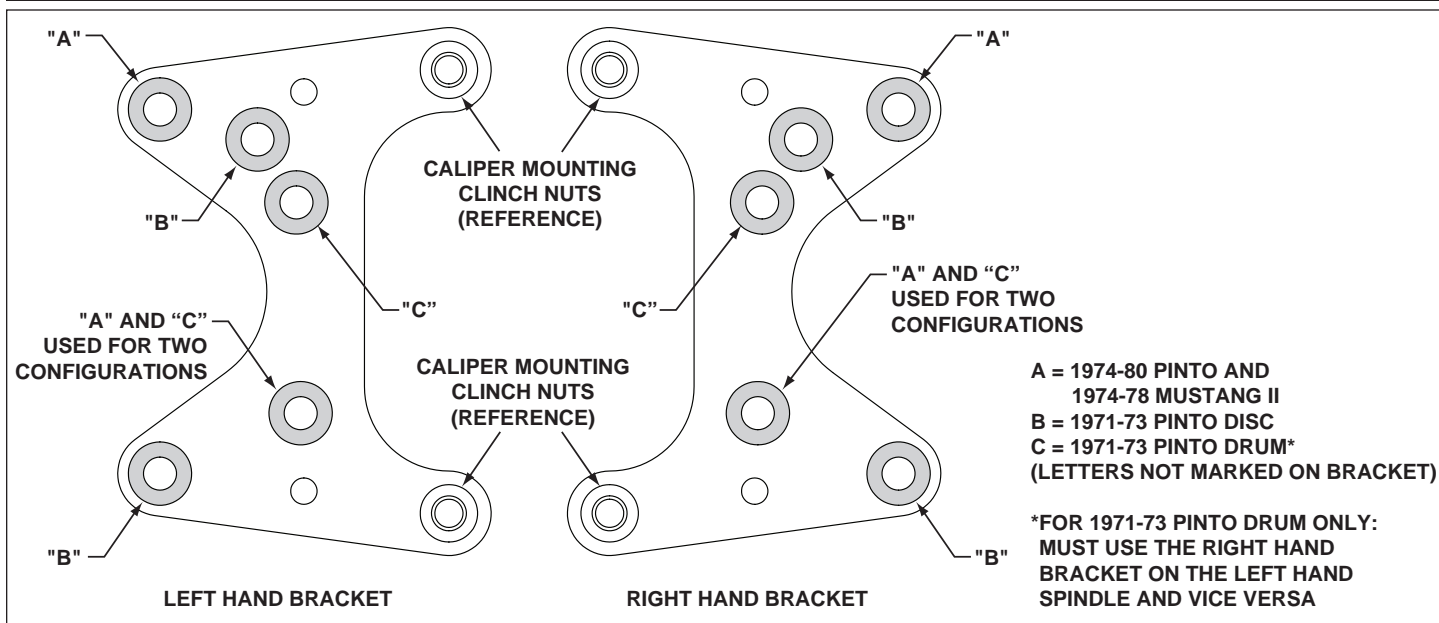
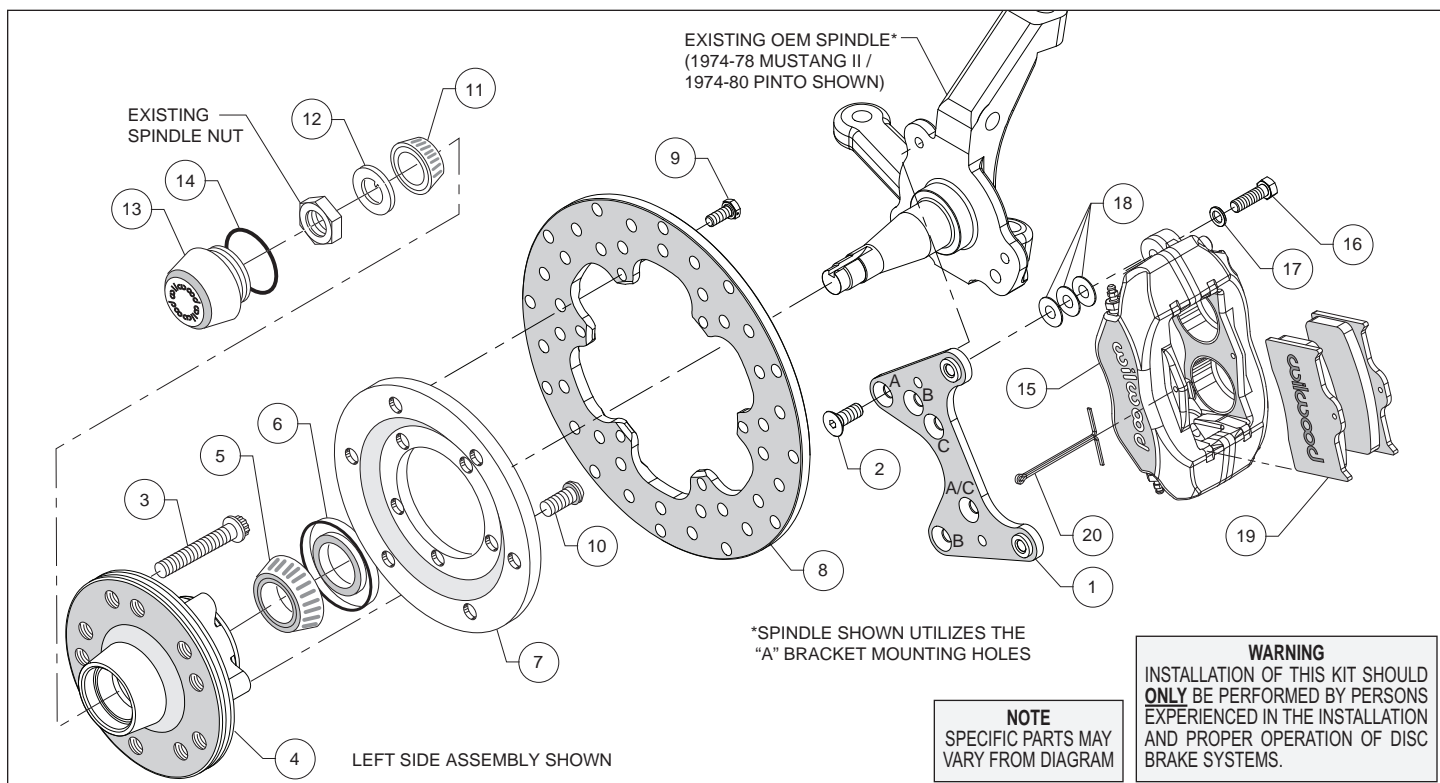
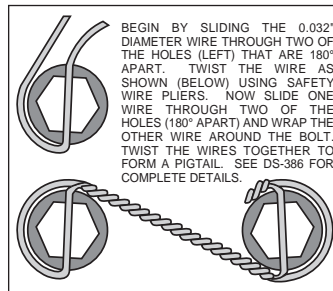
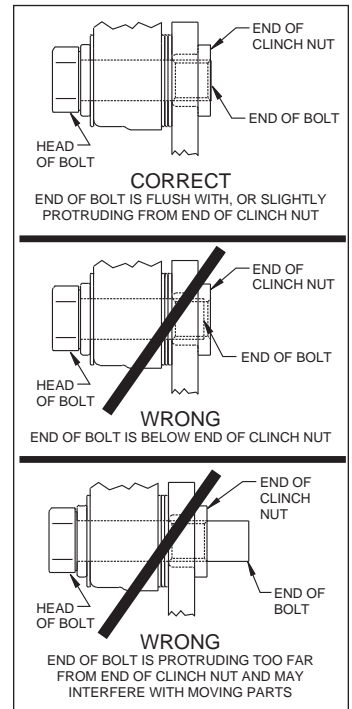

Figure 1. Wilwood Caliper Mounting Bracket
Figure 2. Typical Installation Configuration
Figure 4. Safety Wire Diagram
Figure 5. Clinch Nut Engagement Diagram
This kit has been designed for use with three spindle configurations. The only difference is in how the Wilwood caliper mounting bracket is installed. The same bracket is used for all three configurations; the 1974-78 Mustang II/1974-80 Pinto, the 1971-73 Pinto disc and the 1971-73 Pinto drum spindle (see Figure 1). For your convenience we have supplied fasteners for all applications (see parts list and Figure 2 as necessary, items 2, 2A and 2B). Use the fasteners that are applicable to your vehicle and disregard the other items.
Assembly Instructions (numbers in parenthesis refer to the parts list, on the preceding page and Figure 2): **CAUTION:** All mounting bolts must fully engage clinch nuts. Be sure to check that all bolts are either flush or protruding through flanged side of clinch nut after shimming, Figure 5.
•Orient the caliper mounting bracket (1) as shown in Figure 2 and Photo 1. Using the bracket holes indicated “A” in Figure 1, mount the bracket to the spindle with bolts (2), Photo 1. Temporarily tighten the mounting bolts. Ensure that the flanged heads of the clinch nuts in the bracket are facing outboard, Photo 1. **NOTE:** *The bracket must fit squarely against the mounting points on the spindle.* Inspect for interference from casting irregularities, machining ridges, burrs, etc. Remove bolts one at a time, apply red *Loctite*® 271 to threads and torque to 30 ft-lb.
•Orient the caliper mounting bracket (1) as shown in Photo 2. Using the bracket holes indicated “B” in Figure 1, mount the bracket to the spindle with bolt (2) and bolt (2A), Photo 2. Temporarily tighten the mounting bolts. Ensure that the flanged heads of the clinch nuts in the bracket are facing outboard, Photo 2. **NOTE:** *The bracket must fit squarely against the mounting points on the spindle.* Inspect for interference from casting irregularities, machining ridges, burrs, etc. Remove bolts one at a time, apply red *Loctite*® 271 to threads and torque bolt (2) to 30 ft-lb and bolt (2A) to 45 ft-lb.
•Orient the caliper mounting bracket (1) as shown in Photo 3. Using the bracket holes indicated “C” in Figure 1, mount the bracket to the spindle with bolts (2) and nuts (2B), Photo 3. **NOTE:** *For this application, the right hand bracket must be used on the left hand spindle, and vice versa.* Temporarily tighten the mounting bolts. Ensure that the flanged heads of the clinch nuts in the bracket are facing outboard, Photo 3. **NOTE:** *The bracket must fit squarely against the mounting points on the spindle.* Inspect for interference from casting irregularities, machining ridges, burrs, etc. Remove nuts one at a time, apply red *Loctite*® 271 to the bolt threads and torque nuts to 30 ft-lbs.
•Install wheel studs (3) into the hub (4), Photo 4. Torque to 77 ft-lb. **NOTE:** *There are two five lug patterns in the hub (5 x 4.50 and 5 x 4.75).* Ensure the correct hub stud pattern is being used to fit the wheel application.
•Pack the large inner bearing cone (5) with high temperature disc brake bearing grease (available from your local auto parts store) and install into the backside of the hub (4), Photo 5.
•Install the grease seal (6) by pressing into the backside of the hub (4), flush with the end of the hub, Photo 5.
•Orient the rotor (8) and the rotor adapter (7) as shown in Figure 2 and Photo 6. Attach the rotor to the adapter using bolts (9). Using an alternating sequence, apply red *Loctite*® 271 to the threads, and torque to 25 ft-lbs. Safety wire bolts using standard 0.032 inch diameter stainless steel safety wire as shown in Figure 4. Refer to Wilwood’s data sheet DS-386 (available at www.wilwood.com/Pdf/DataSheets/ds386.pdf) for complete safety wire installation instructions.
- Mount the adapter/rotor assembly (7 and 8) to the hub (4) using bolts (10), as shown in Figure 2 and Photo 7. Using an alternating sequence, apply red *Loctite*® 271 to the threads, and torque to 45 ft-lb.
- Pack the small outer bearing cone (11) with high temperature disc brake bearing grease and install into hub (4). Slide the hub/rotor assembly onto the spindle. Secure using spindle washer (12) and OEM spindle nut, Photo 8. Adjust bearings per OEM specifications. Install saved OEM nut lock (if any) and a new cotter pin (not included).
- Screw dust cap (13) into hub (4), Photo 9. Friction created by the o-ring (14) on the dust cap keeps it from unscrewing. **NOTE:** The O.D. of the existing OEM spindle washer may be larger than the I.D. of the dust cap not allowing it to seat against the hub face. Therefore, use the spindle washer (12) supplied with the kit instead of the OEM washer.
- NOTE:** Please reference the caution statement at the beginning of the assembly instructions. Mount the caliper (15) onto the caliper mounting bracket (1) using bolts (16) and washers (17), as shown in Figure 1. Initially place three .035" thick shims (18) on each bolt between the caliper and the bracket, Photo 10. Temporarily tighten the mounting bolts and view the rotor (8) through the top opening of the caliper. The rotor should be centered enough in the caliper so that the pads will install easily, Photo 11. If not, adjust by adding or subtracting shims (18) between the bracket and caliper. Always use the same amount of shims on each of the two mounting bolts. **CAUTION:** Do not exceed four shims (18) per bolt. **NOTE:** The end of each bolt must be flush with or slightly protruding from the head of the clinch nut, as shown in Figure 5. If necessary place spare shims between washer (17) and caliper mounting ear to achieve the proper clinch nut engagement. Once the caliper alignment and clinch nut engagement are correct, remove the bolts one at a time, apply red *Loctite*® 271 to bolt threads, and torque to 40 ft-lb. For an added measure of security, the bolts may be safety wired using standard 0.032 inch diameter stainless steel safety wire as shown in Figure 3. Refer to Wilwood's data sheet DS-386 (available at www.wilwood.com/Pdf/DataSheets/ds386.pdf) for complete safety wire installation instructions.
- Install the disc brake pads (19) into the caliper (15), with the friction material facing the rotor (8), Photo 12, and secure in place using cotter pin (20), Photo 13.